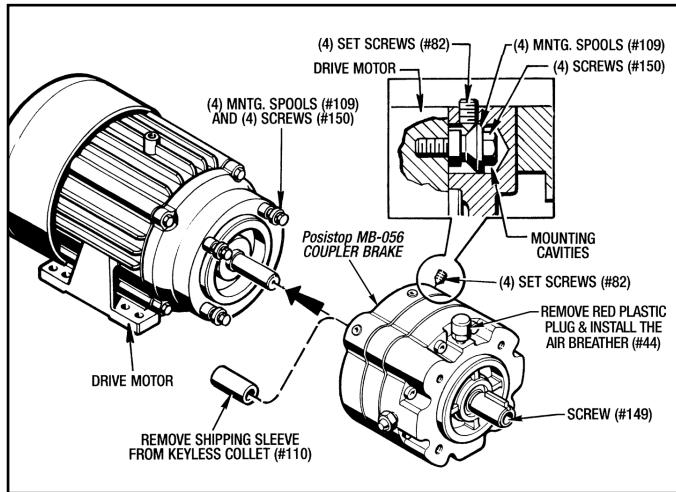

Figure 3 - Mounting The MB-056 Coupler Brake
The **Posistop MB-056 Coupler Brake** is shipped pre-assembled except for the (4) Mounting Spools (#109) and (4) Hex Hd. Mounting Screws (#150). The Key (#180) is also shipped loose. There is a red plastic plug in the hole for the Breather (#44). Remove this red plastic plug and install the Breather (#44). (See Figure 3) Failure to install Breather can damage the brake and void the warranty.
(See Figure 3)
2. Install the (4) Mounting Spools (#109) and the (4) Screws (#150) to the motor face as shown in *Figure 3*. Use **Blue Loctite #271** on these screws. Only moderately tighten them up at this time. **Do not torque these (4) Screws (#150) at this time.**